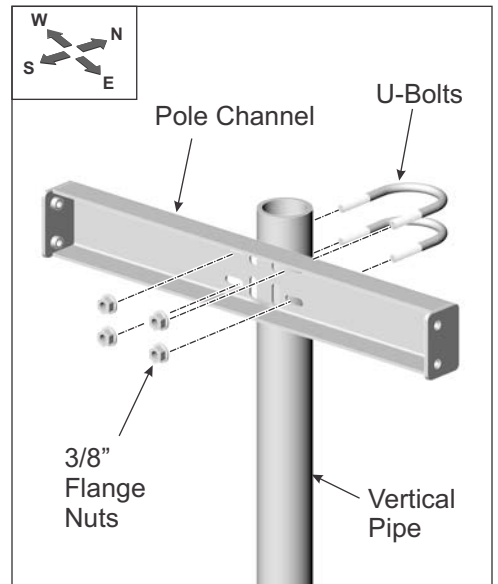

Figure 1-3: Installing U-Bolts
- B. Rotate the Pole Channel so it is facing south. (See Figure 1-3)